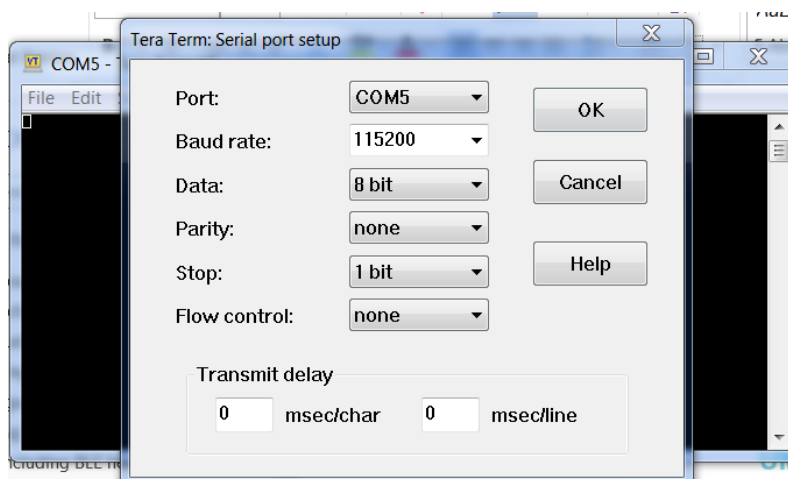

Figure 68: Configuring the serial port
- From the Menu bar choose Setup > Serial port ... and configure the serial port as **115200-8-n-1** as shown in Figure 68.